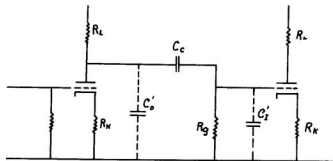

Fig. 1
Let  $R_g$  in Fig. 1 be 390K and it is desired to find the nearest standard value of condenser for  $C_o$  that will give a loss of 1 db at 20 cycles. Set the indicator to -1 on the (db) scale. Move the slide and set 2 on the (F) scale to the hair line. Re-set the indicator to .39 on the ( $X_c$ ) scale. Under the hair line read .4. Determining the decimal point gives a value of .04  $\mu f$ . If this value is not convenient and say .05  $\mu f$  is more suitable, move the slide till .5 (for .05  $\mu f$ ) is at .39 (for 390K) and read  $F = 16.2 \sim$  for -1 db response. The impedance Z in polar form represented by the coupling as a load on the tube may be solved by the relation of  $|Z| = \frac{R}{\text{Cos } \theta}$ . Cos  $\theta$  and  $\theta$  may be read directly for any value of frequency when C is set to R. The (C) and ( $X_c$ ) scales are used to compute  $\frac{R}{\text{Cos } \theta}$ . Set the left index of scale (C) to R on ( $X_c$ ).
At high frequency the circuit in Fig. 1 resolves into the equivalent circuit of:-